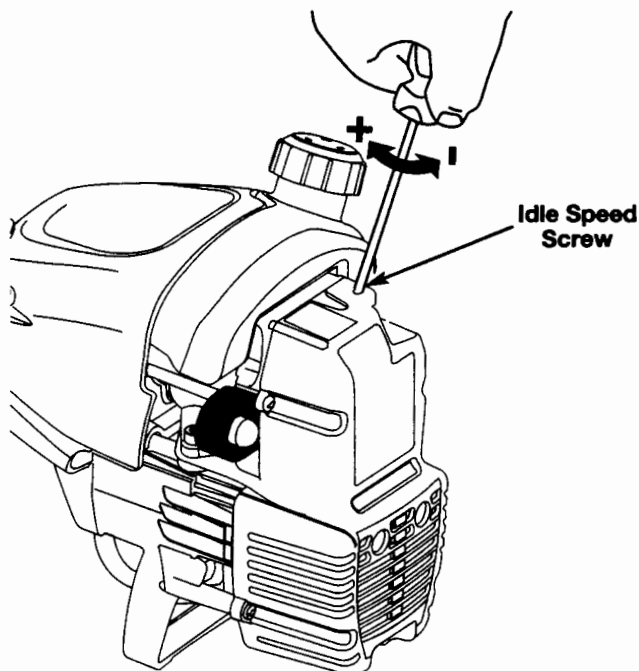

Fig. 42
The idle speed of the engine is adjustable through the air filter/muffler cover (Fig. 42).
2. Release the throttle trigger and let the engine idle. If the engine stops, insert a small phillips or flat blade screwdriver into the hole in the air filter/muffler cover (Fig. 42). Turn the idle speed screw in, **clockwise**, 1/8 of a turn at a time (as needed) until the engine idles smoothly.